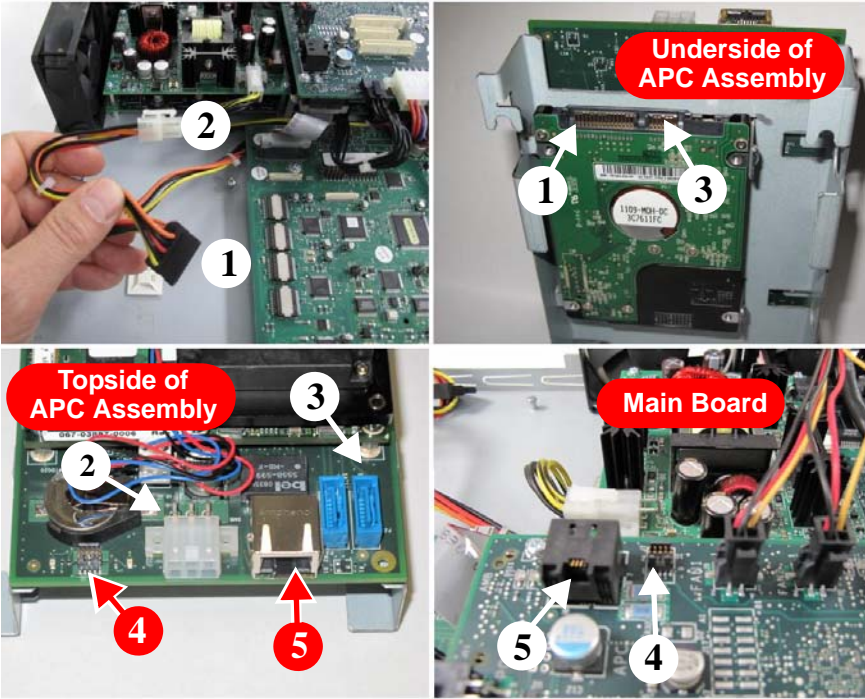

Figure 67: Connect Power and SATA Data Cables
- Before seating the assembly in the chassis, connect the following cables, referring to Figure 67 (page 195) for connector locations. Only some of the connections are made in this step; the remaining are made after the assembly is seated. Note that the SATA and housekeeping cables are keyed for proper connection.
- SATA power cable to the hard disk drive; (1) in Figure 67 (page 195)
- 6-pin power connector to the APC-CX(i); (2) in Figure 67 (page 195)
- SATA data cable from hard disk drive to SATA 0 port on the APC-CX(i) II; (3) in Figure 67 (page 195)
- one end of the housekeeping signal cable to the APC-CX(i) II; (4) in Figure 67.
- one end of the Ethernet cable to the Ethernet jack on the APC-CX(i) II; (5) in Figure 67 (page 195).
8. Complete the remaining cable connections as follows (refer to Figure 67 (page 195) above for connector locations):
- Connect the loose end of the Ethernet cable to the Ethernet jack on the APC-CX(i) II Assembly to the corresponding jack on the main board; (5) in Figure 67 (page 195).
- Connect the loose end of the housekeeping signal cable on the APC-CX(i) II Assembly to the corresponding connector on the main board. The connectors are keyed for proper connection; (4) in Figure 67 (page 195).